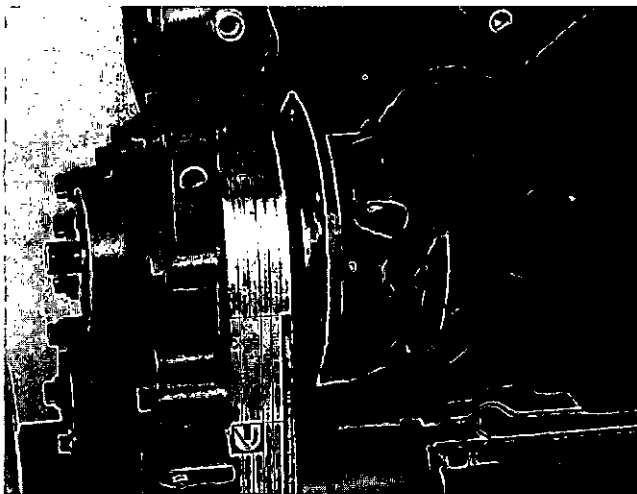

Fig. 0-34. Remove The Accessory Drive.
3. Remove the drive and discard the gasket, Fig. 0-34.